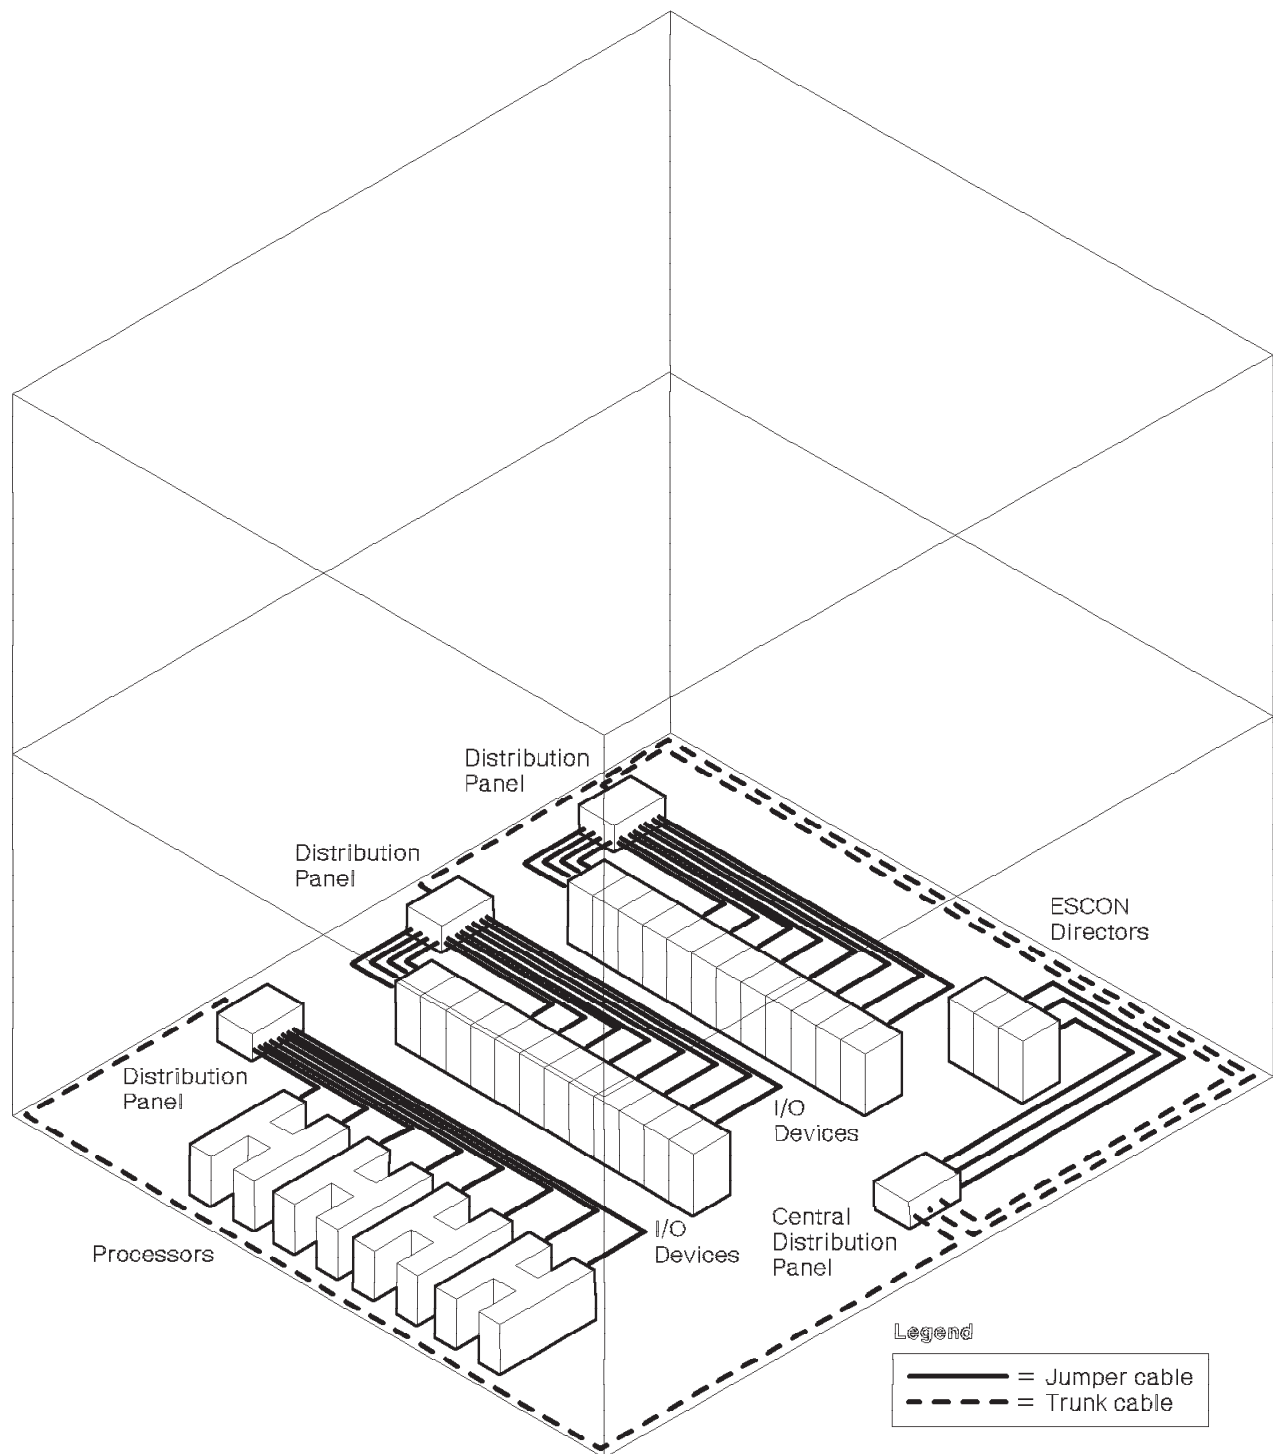
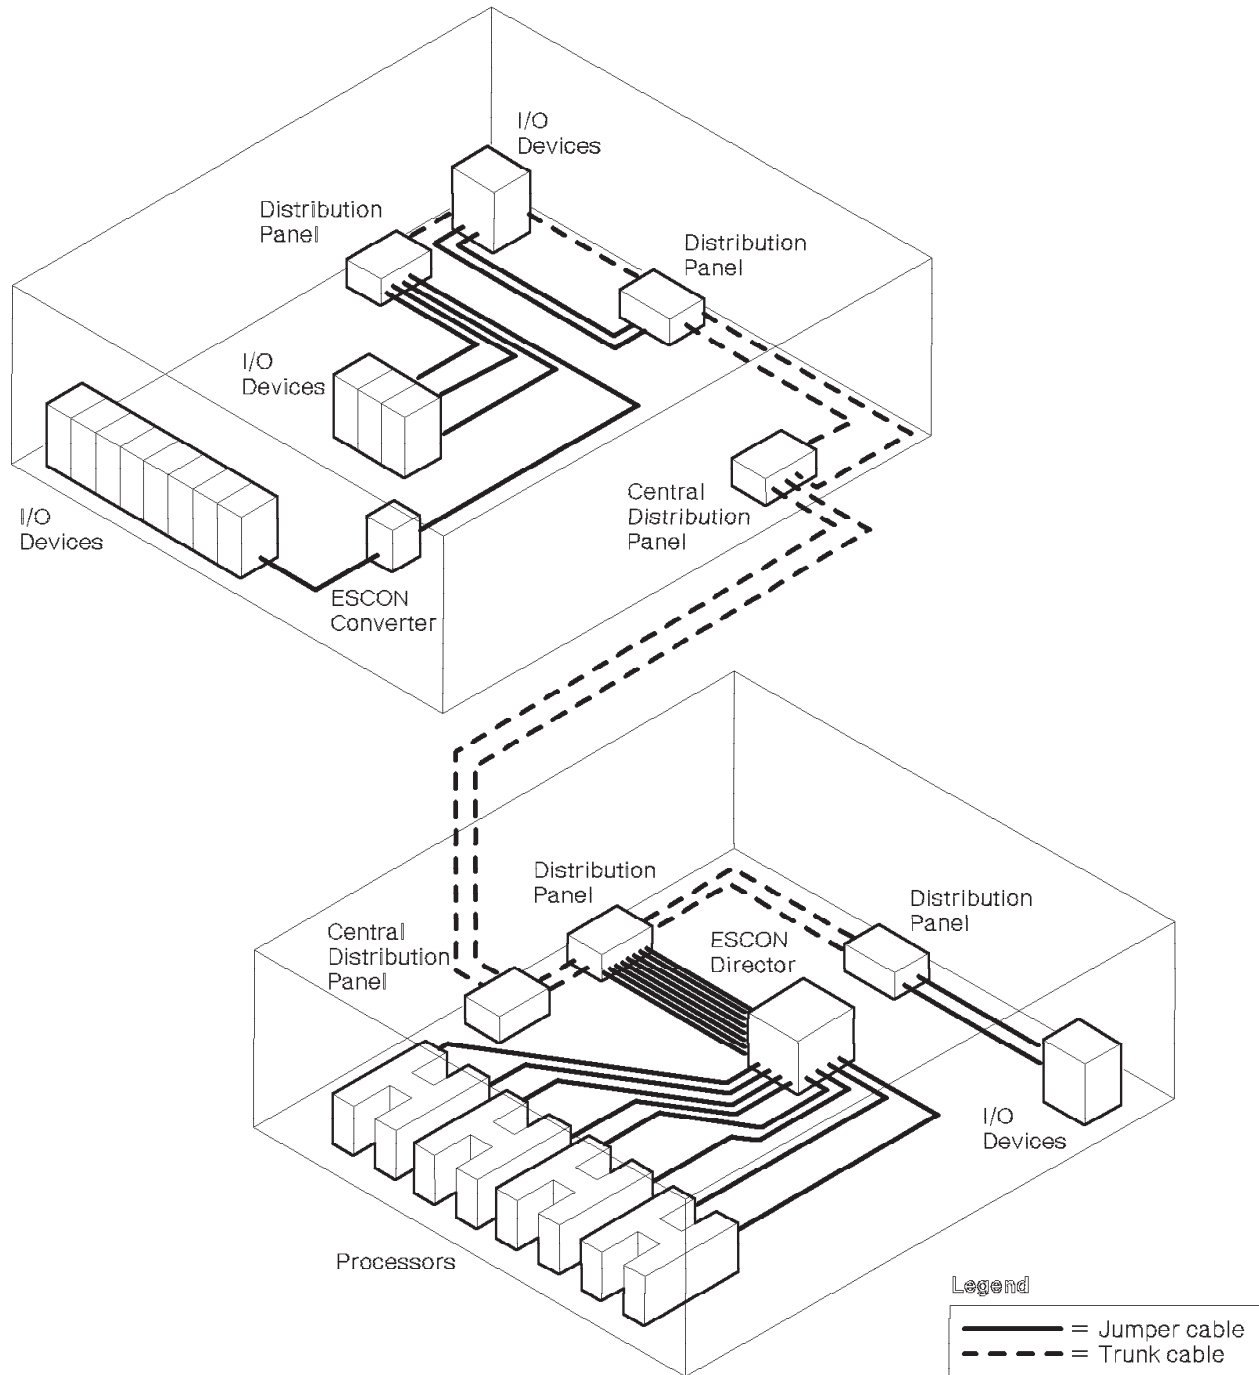
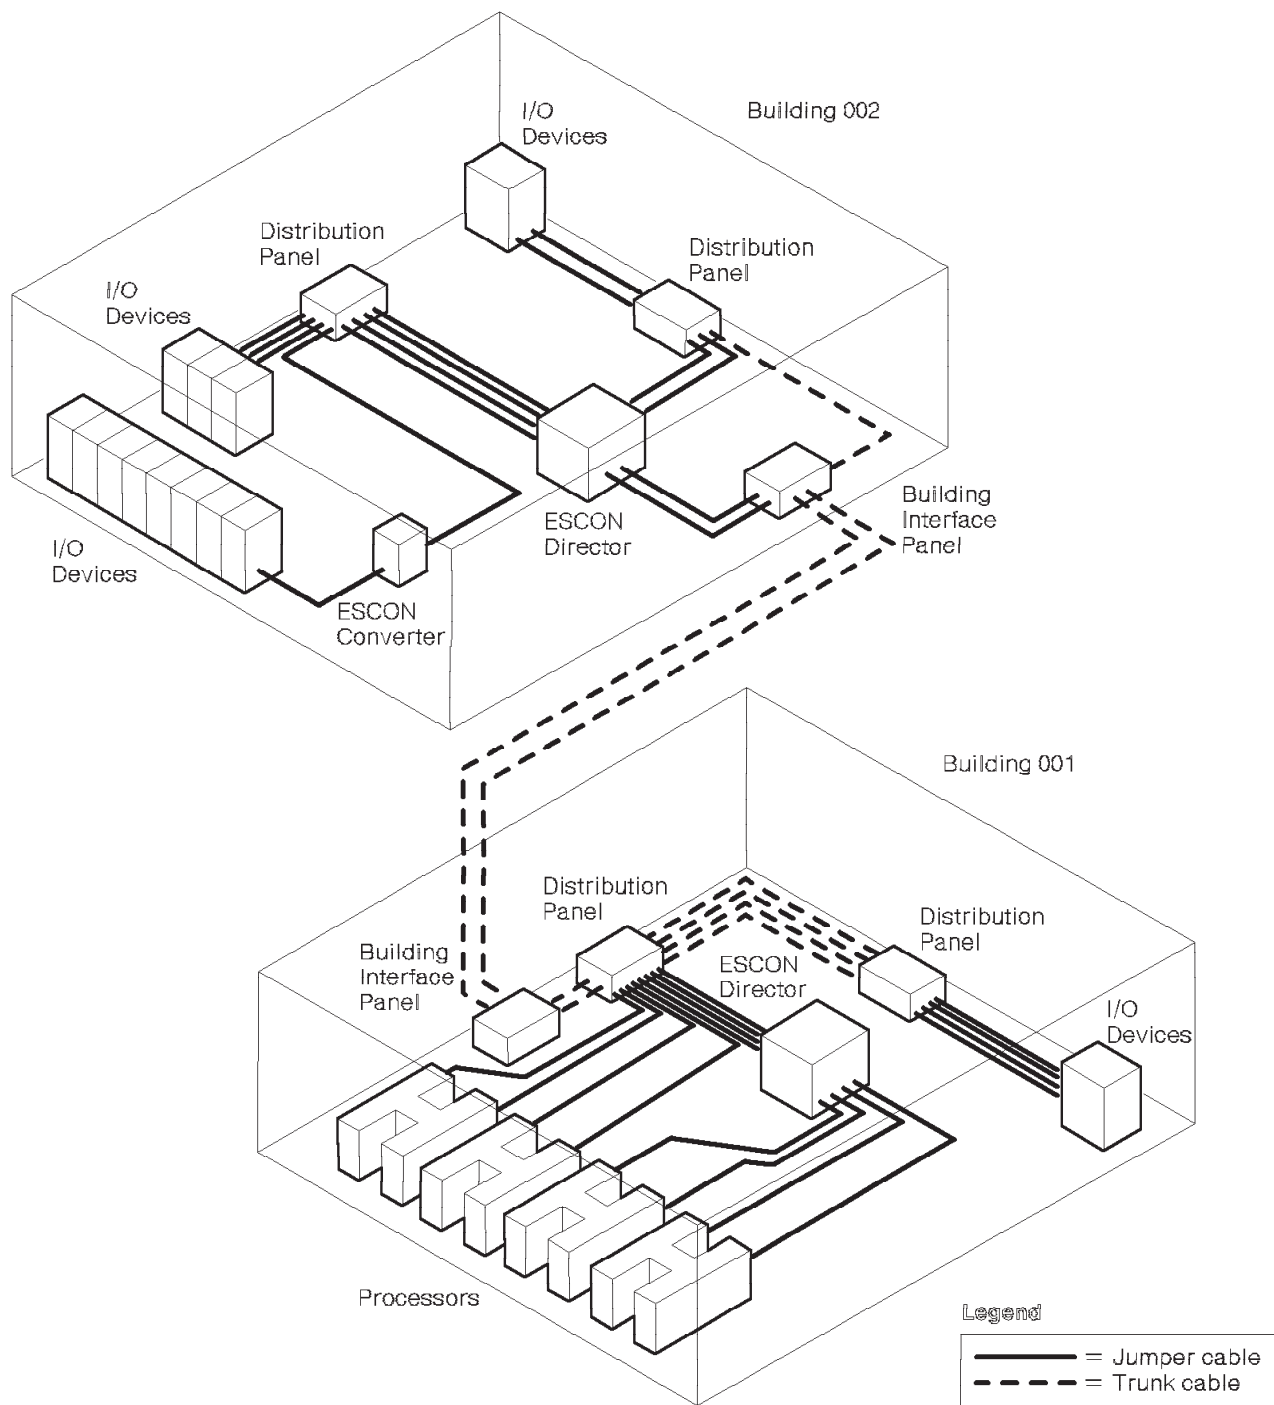
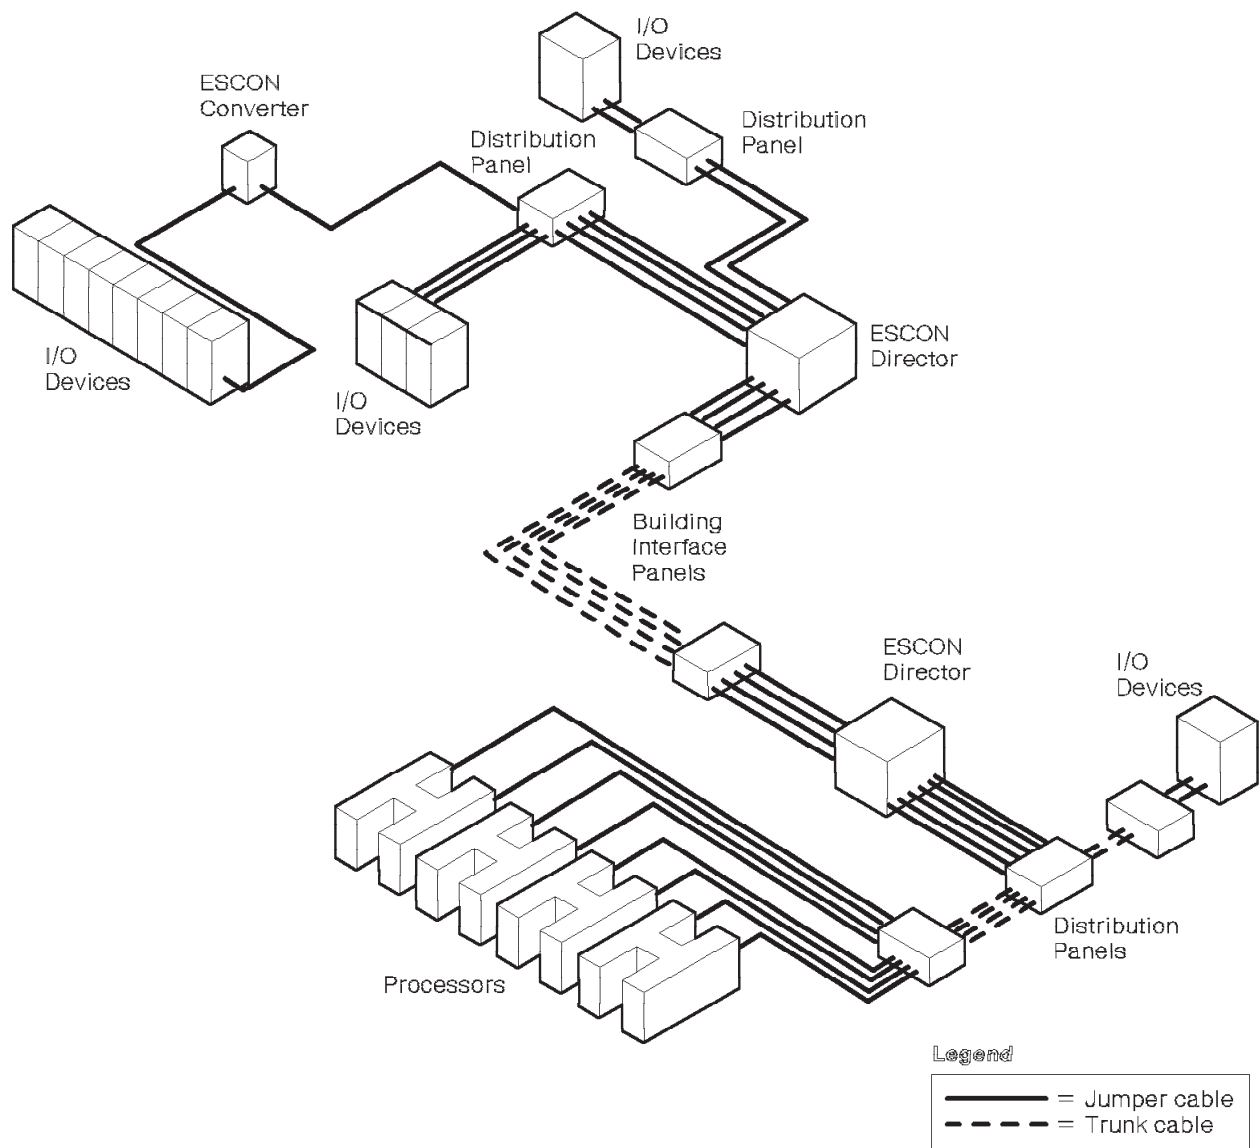

Figure 40. Example of a Single-floor link environment
Figure 41. Example of a Multifloor or multiroom link environment
Figure 42. Example of a single-campus link environment between two buildings
Figure 43. Example of a multicampus link environment
The following paragraphs describe and show an example of each environment. The major differences are the type (single-mode or multi-mode) and location of trunk fiber, the purpose of the distribution panels, and the cable routing from the panels. Figure 40 on page 41, Figure 41 on page 43, Figure 42 on page 45, and Figure 43 on page 47 show examples of the four fiber optic channel link environments. In these figures:
A single-floor link environment (Figure 40 on page 41) uses multiple, strategically placed distribution panels that are connected by trunk cable to a central distribution panel. This environment provides flexibility and growth because installation or relocation of equipment can be performed by using short multi-mode jumper cables, while causing little or no disruption to operations. After the equipment is relocated or installed, it can be reconnected into the closest distribution panel.
Figure 41 on page 43 shows a data processing configuration that occupies two floors (or rooms) within the same building. The first floor or room contains processors, an ESCON Director, and I/O devices, while the second floor or room contains only I/O devices.
Figure 42 on page 45 shows an example of a data processing configuration that has two buildings within a campus. This environment uses building interface panels and includes two ESCON Directors.
- | Figure 43 on page 47 conceptually shows a multicampus environment. Notice that the figure does not